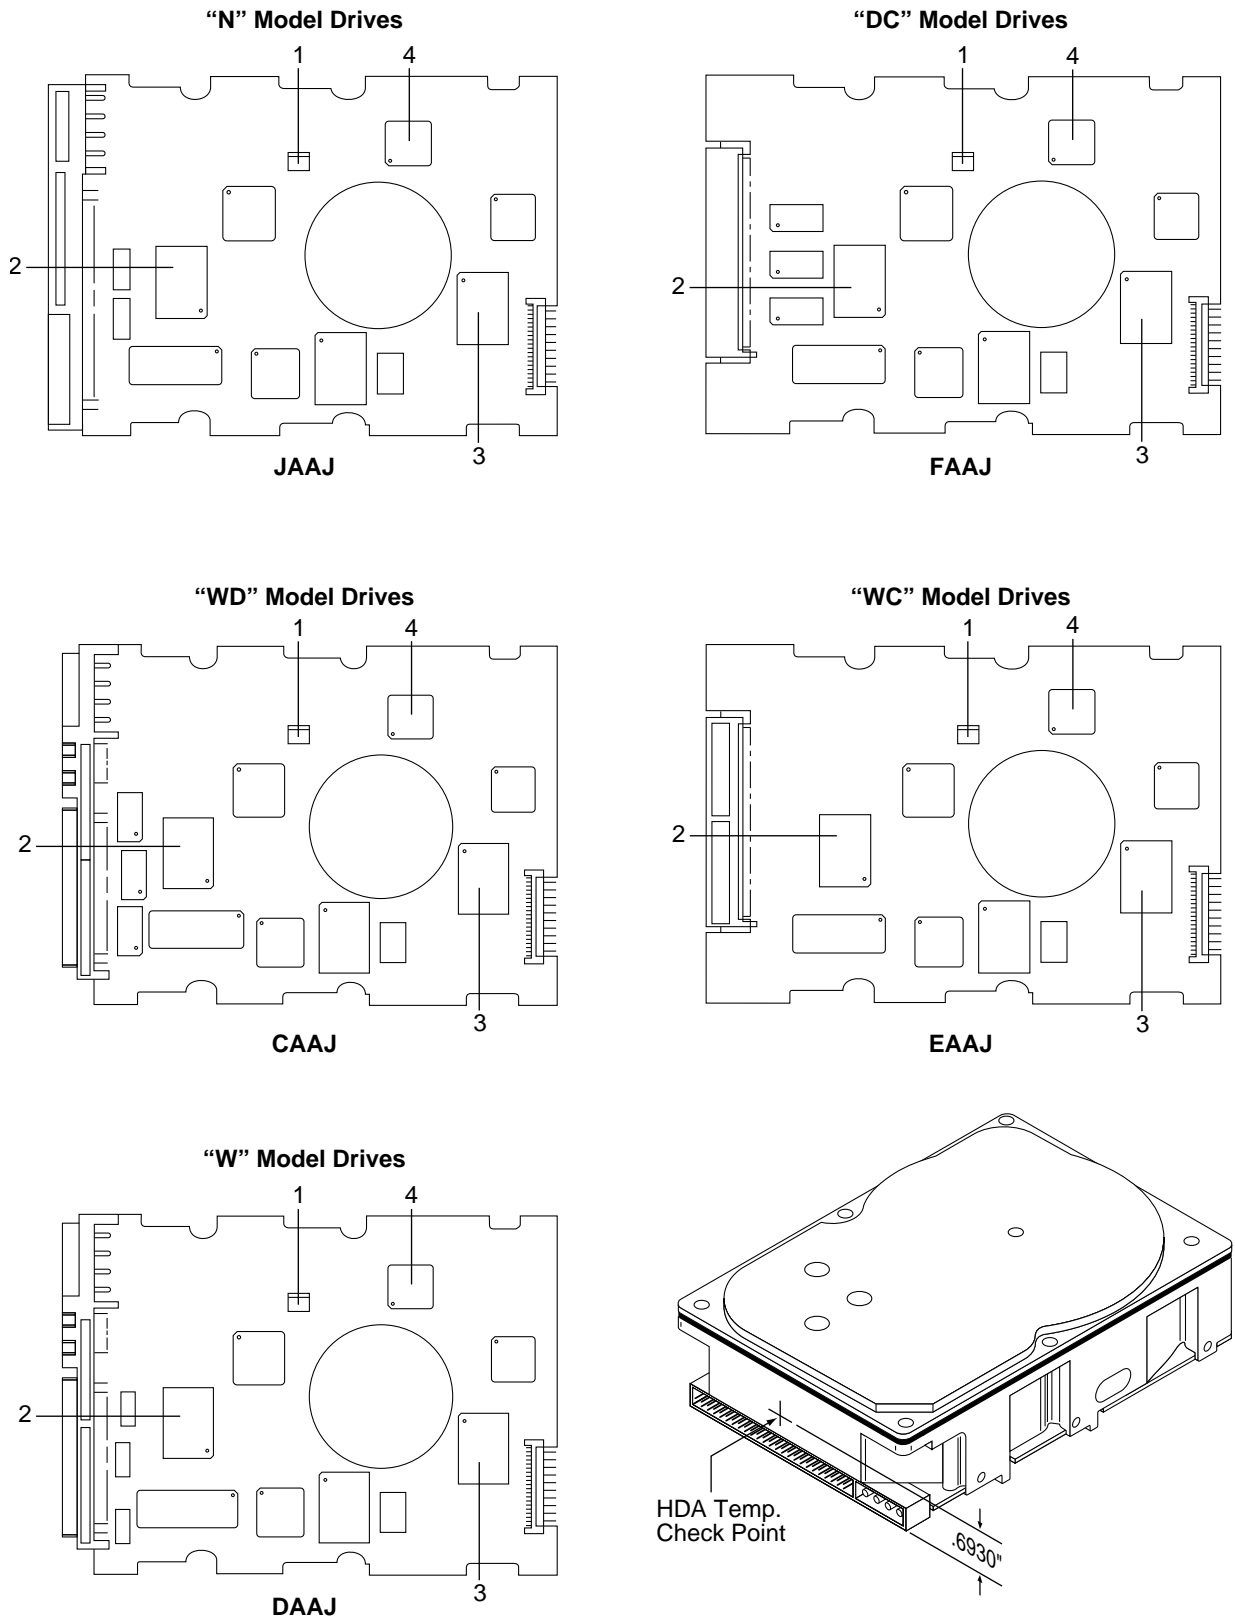

Figure 4. Locations of PCB components listed in Table 3
- [3] Measure HDA temp at point labeled "HDA" on Figure 4.